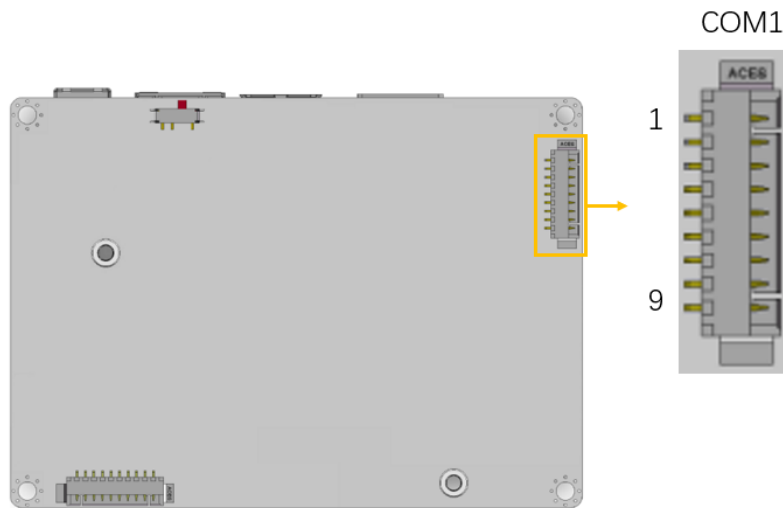

Figure 3-14: RS-232/422/485 Connector Location
- CN Location:** See **Figure 3-14**